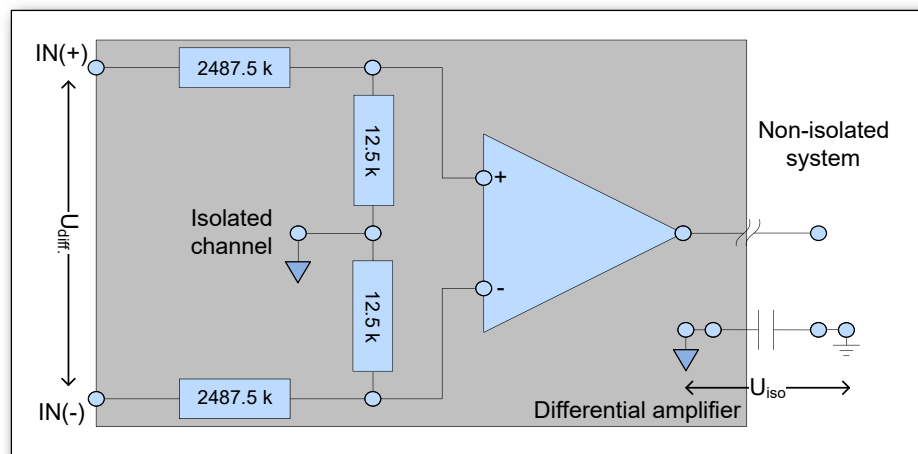

Figure 12.18: Isolated balanced input channel
The high voltage signal input channels of the GN310B/GN311B are of the balanced type. This means that both inputs within one channel pair are exactly the same. The only difference is an opposite polarity or sign. A (simplified) schematic representation of the input channel can be found below (see Figure 12.18).
- The isolated ground is not externally accessible, as shown in Figure 12.18.